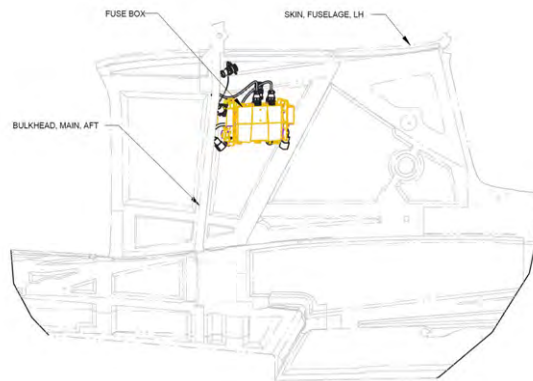

FIGURE 17-51
2. Locate the fuse box forward of the AFT bulkhead, LH. See Figure 17-51.